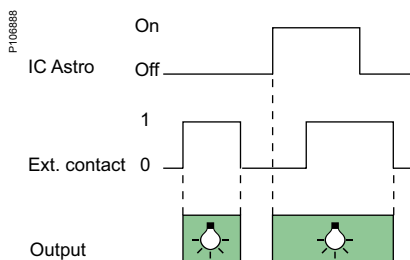

Fig. 6.
- The supply of input 5 forces the IC Astro output to the "ON" position. This override takes priority over the product On/Off override function (see Fig. 6).